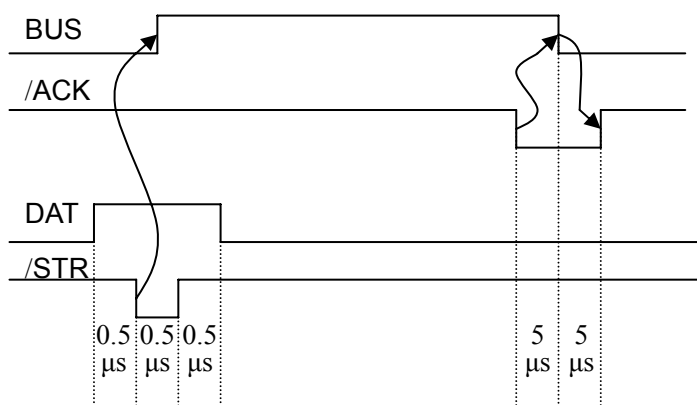

Figure 5-3 Time sequence of Parallel to transmit data
(4) Time sequence of Parallel to transmit data (as shown by figure 5-3):